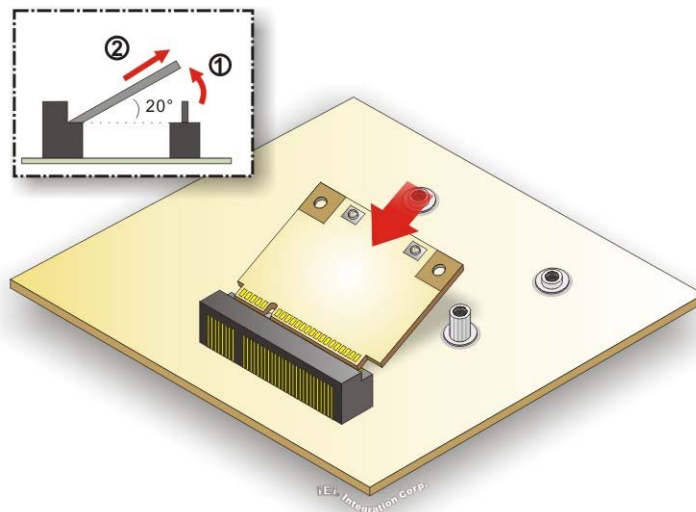

Figure 3-17: Inserting the WLAN Module
Step 4: Line up the notch on the WLAN module with the notch on the slot. Slide the WLAN module into the slot at an angle of about 20° (**Figure 3-17**).